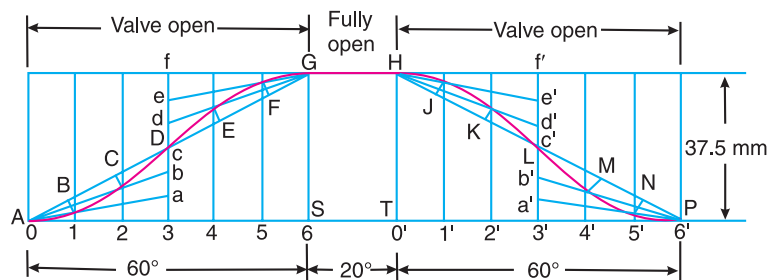

Fig. 20.27
First of all, the displacement diagram, as shown in Fig. 20.27, is drawn as discussed in the following steps :
4. Divide the vertical lines $3f$ and $3'f'$ into six equal parts as shown by the points $a, b, c \dots$ and $a', b', c' \dots$ in Fig. 20.27.
6. Complete the displacement diagram as shown in Fig. 20.27.